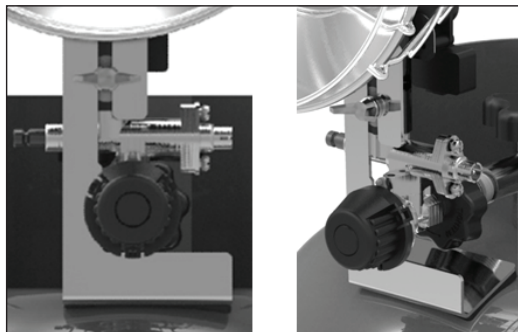

Figure 2
2. Loosen the wingnut located on the venturi tube. Place the heater support around venturi and rest the bottom of the heater support on the propane cylinder. Tighten the previously loosened wingnut to secure the heater support onto venturi tube. (See Figure 2)